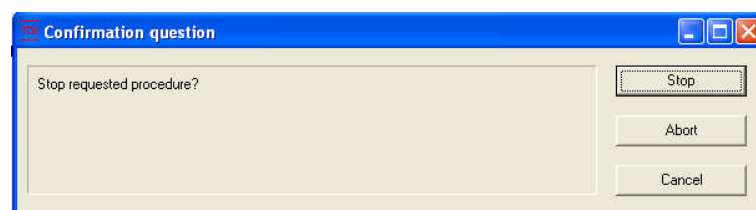

Figure 21: Stop confirmation
- Stop: This button will stop the operation of the instrument, but the actual measurement will be finished. This button is the best option for stopping the operation. (Figure 21)
- Abort: This button will stop (abort) the operation of the instrument immediately. When this button is used in a measurement, rinsing step follows the next time the procedure is started again. (Figure 21)